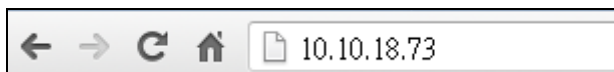

Figure 4-17: IEI iMAN Web Address
Step 2: On the remote management console, open a web browser. Enter the managed system IP address in the web browser (Figure 4-17).